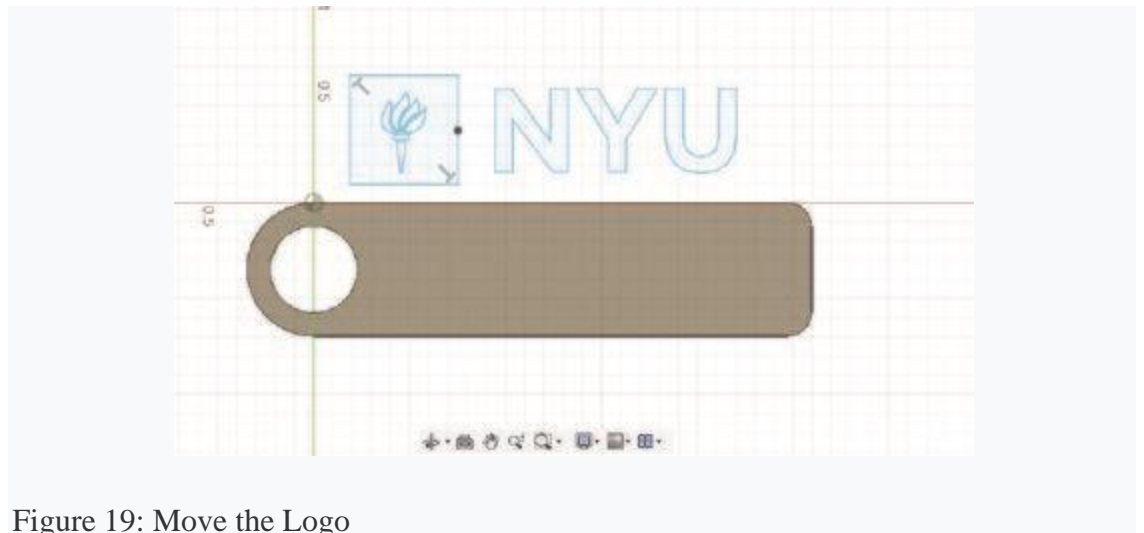

Figure 19: Move the Logo
- iv. Select “Point to Point” as the move type in the window that appears. (Figure 19)